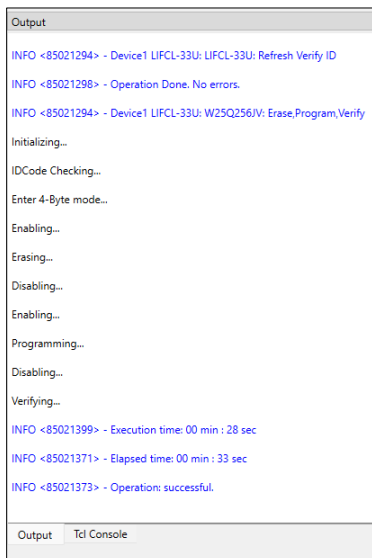

Figure 5.34. Message on Successful Programming
9. Verify that the programming status displays *Operation successful* in the output window, as shown in Figure 5.34. To activate the flashed bitstream, power cycle the device.